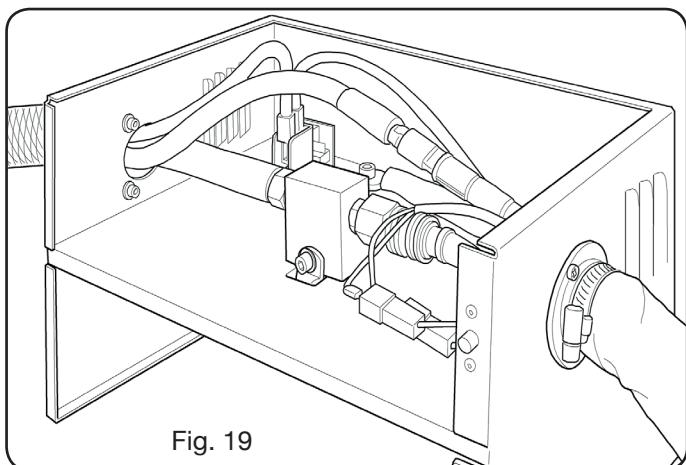

Fig. 19
- Insert a torch cable (art.1224, 1225 or 1237) in the HV19-1 Unit (art. 464) as shown in the right part of figure 19.